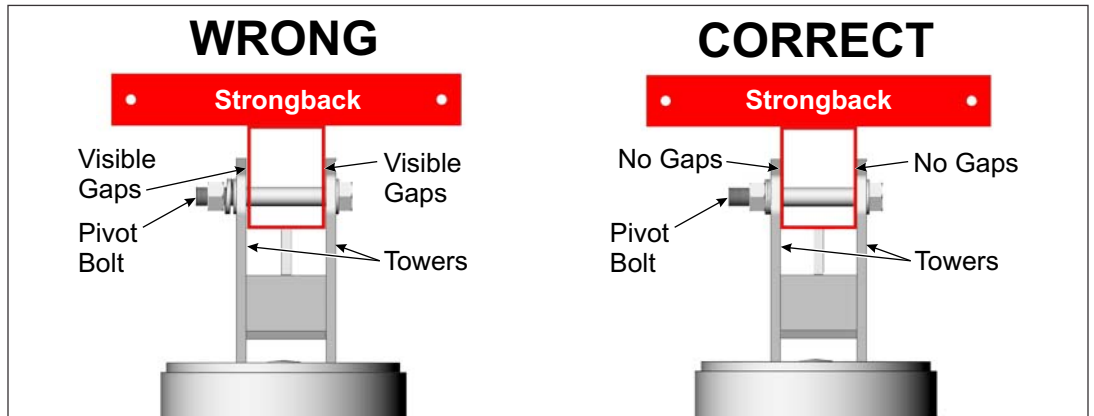

Figure 7-3: Tighten and Torque the Pivot Bolt
- C. Re-tighten the Pivot Bolt. After changing the tilt angle and tightening the Support Bar hardware, the Pivot Bolt must be re-tightened. The Pivot Bolt cannot be left loose - the Mounting Sleeve Vertical Towers must be firmly clamped to the sides of the Strongback eliminating any gaps between the Vertical Towers and the Strongback. **Torque to 125-150+ ft.-lbs. for 3/4" hardware or 330-350 ft.-lbs. for 1" hardware.** (See Figure 7-3)